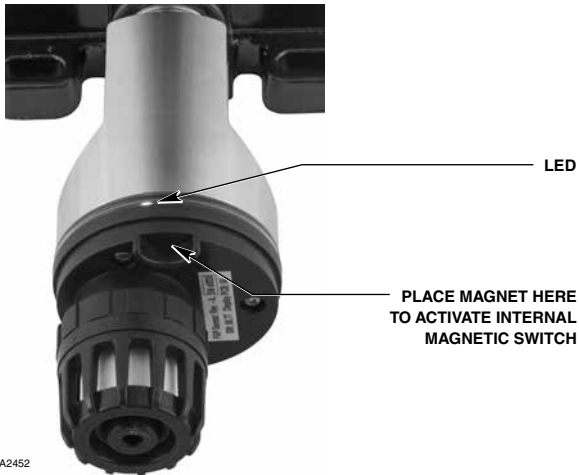

Figure 10—Location of Magnetic Switch on GT3000 Detector
- A. Hold the calibration magnet against the designated location on the sensor module (see Figures 10 and 11) until the green LED turns off and the yellow LED turns on steady (approximately one second).